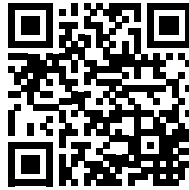

Figure 54: QR Code
- **QR Code or GE Website:** To obtain a newer version of the APP, scan the QR Code in *Figure 54* below.